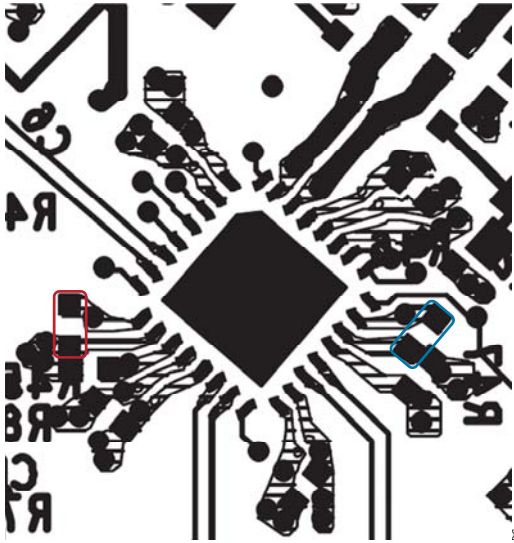

Figure 6-4: Loop Filter Capacitor PCB Layout
- It is recommended to have LF cap ground and VCO caps ground to be common with multiple stitching of vias to ground. Capacitors should be placed from smallest value to largest value away from chip. In addition, the connection from the LF pin to the capacitor should be as small as possible with no vias. Figure 6-4 below demonstrates this technique: